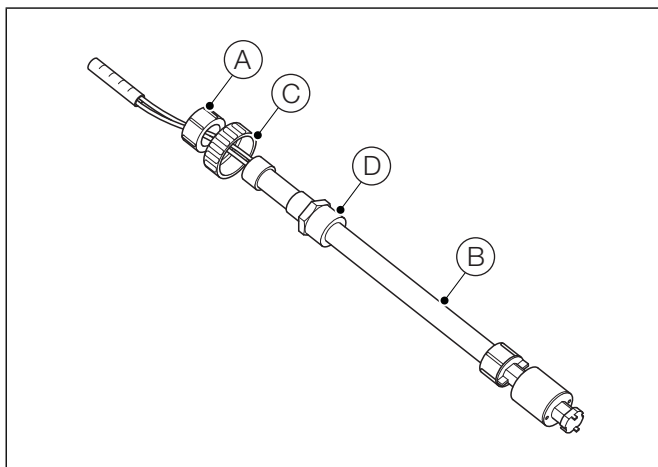

Fig. 4.12 Reagent Level Sensor
Care must be taken when installing the reagents to prevent contamination. Keep the reagent level sensor dry and avoid handling the stem. Hold the level sensor by clamp ring (A) – see Fig. 4.12.